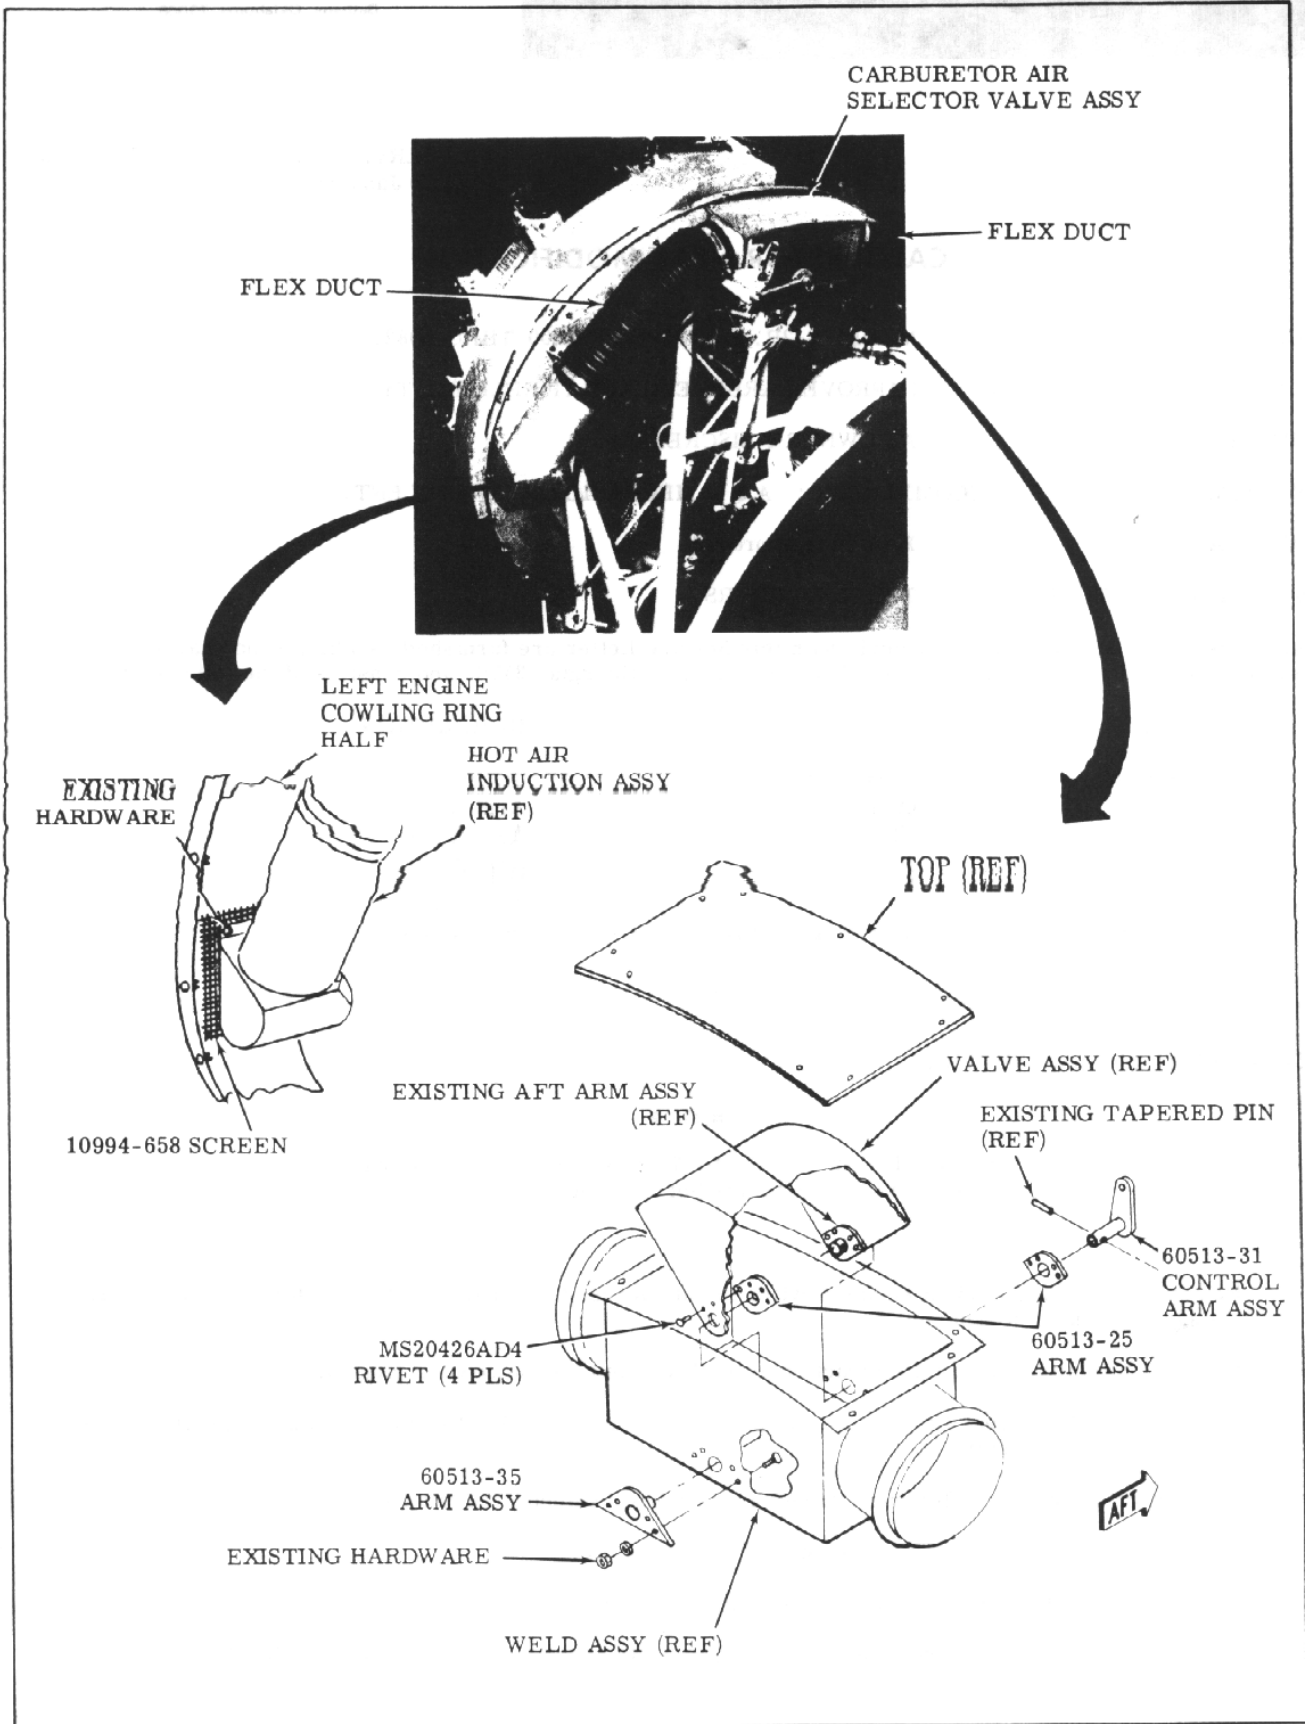

Figure 1.
- 3 Install 10994-658 screen between hot air induction assembly and left engine cowling ring half using existing hardware (see Figure 1).
9. Remove forward arm assembly from valve assembly and install 60513-25 arm assembly using MS20426AD4 rivet (4 places)(see figure 1).
11. Install 60513-25 arm assembly on aft hole in weld assembly using MS20426AD4 (4 places)(see Figure 1).
12. Install valve assembly in weld assembly and install 60513-31 control arm assembly on valve assembly using existing tapered pin (see Figure 1).
13. Install 60513-35 arm assembly on forward hole in weld assembly using existing hardware (see Figure 1).